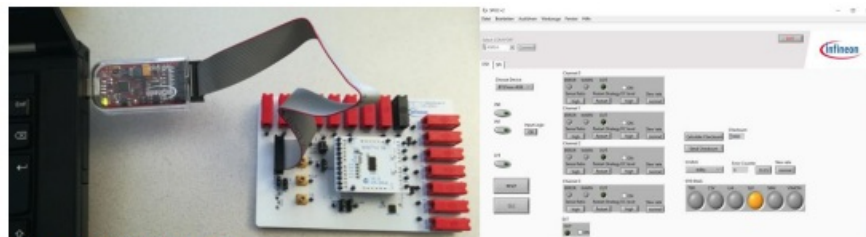

Figure 13 - Finished setup
- Connect the μ IO-Stick to your computer and run the SPOCTM+2-Application. (see Figure 13)